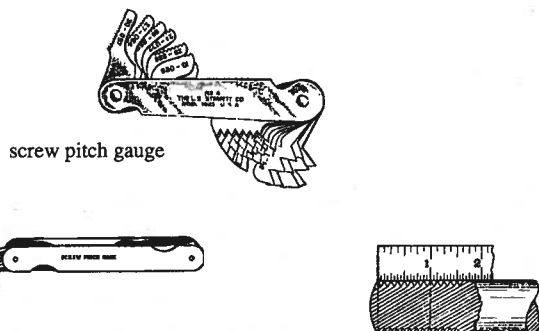

Figure 12. Measuring threads per inch (TPI)
2. *Threads per inch (TPI)* refers to the number of threads in one inch of the shank. This is best determined with a screw pitch gauge (Figure 12). Each folding blade of the gauge is numbered, with a row of teeth corresponding to different thread configurations in cross section. The correct blade is matched to the threads by trial and error. Threads per inch can also be determined with a ruler.